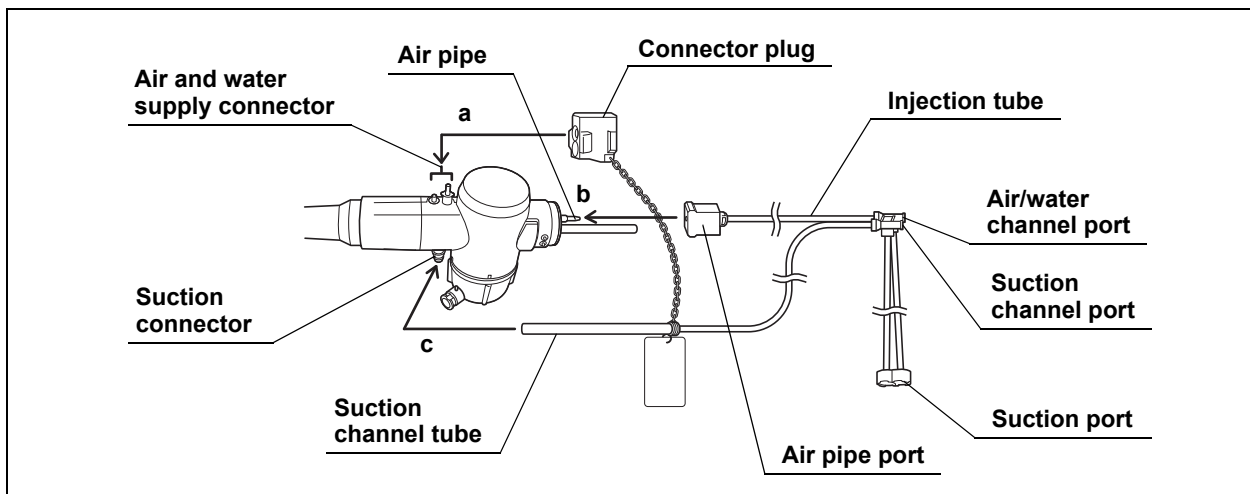

Figure 5.35
3. Immerse the suction port of the injection tube (MH-946) in the water. (See Figure 5.35)